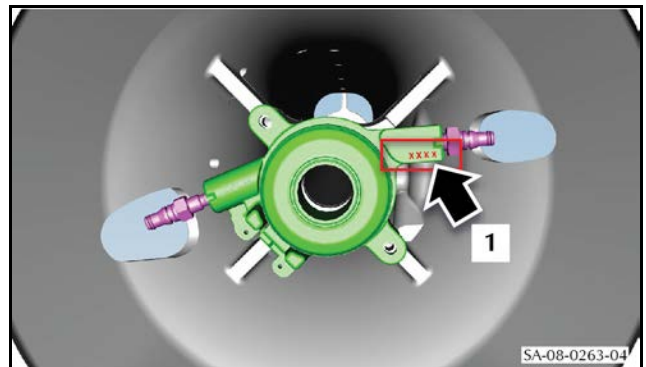

Figure 7
10. Record the batch number (1) of the slave cylinder (refer to Figure 7).